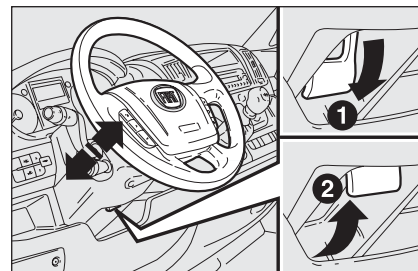

fig. 37
- ☐ release the lever **A**-fig. 37 pulling it towards the steering wheel (position 2).